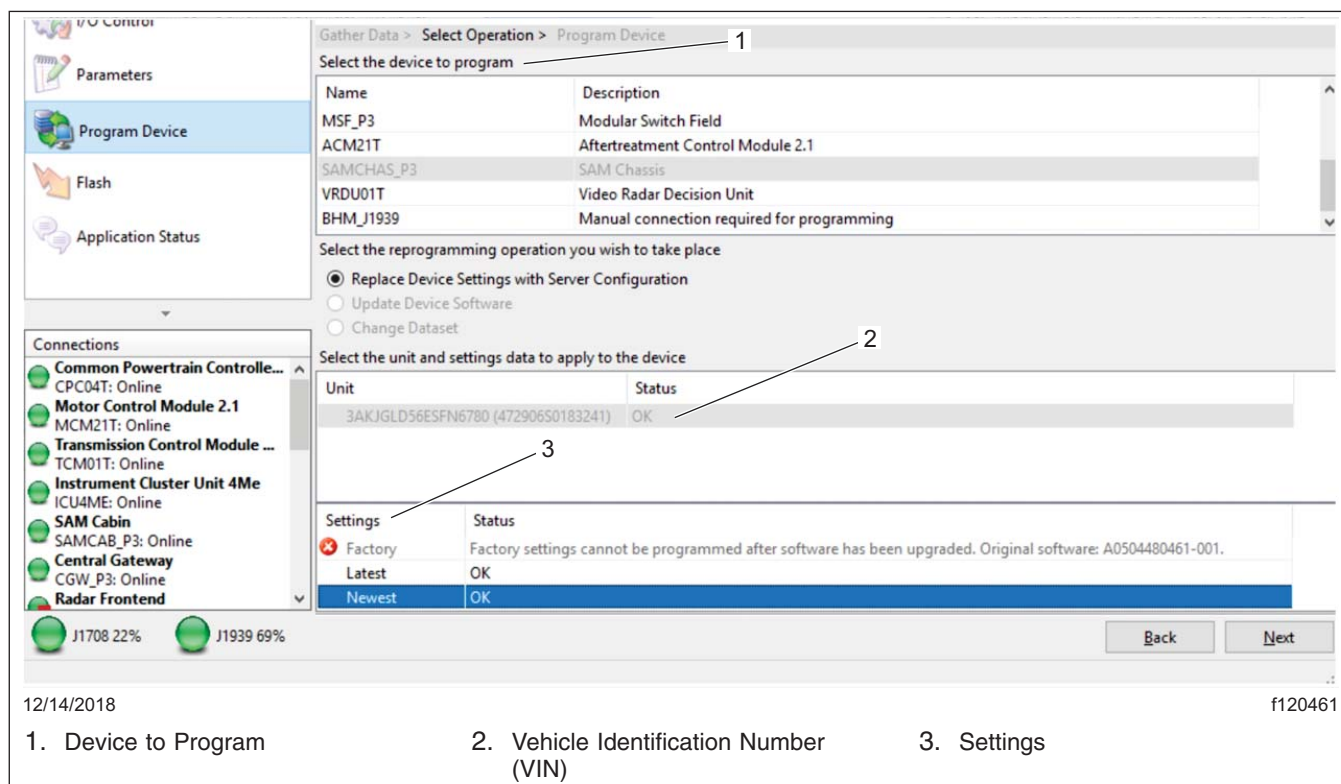

Fig. 10, Selecting "Latest" or "Newest" Software
11. Select the CGW to program and select the VIN. Then, if a "Newest" record exists, select "Newest." If only a "Latest" record exists, then select "Latest." Click "Next." See Fig. 10.